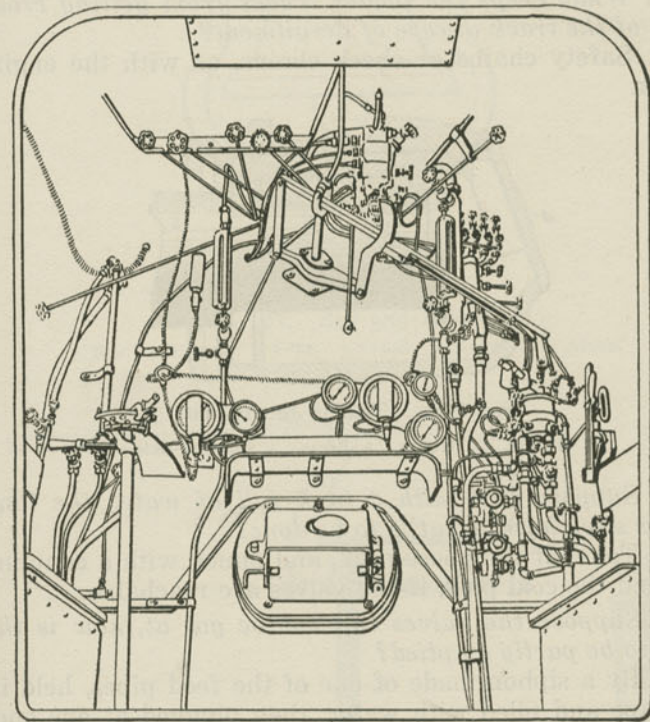

Fig. 306. Interior of Cab.
A. About like car-axle boxes, the journals being in a cast-iron box open front and rear and having a cover. (Fig. 306.)